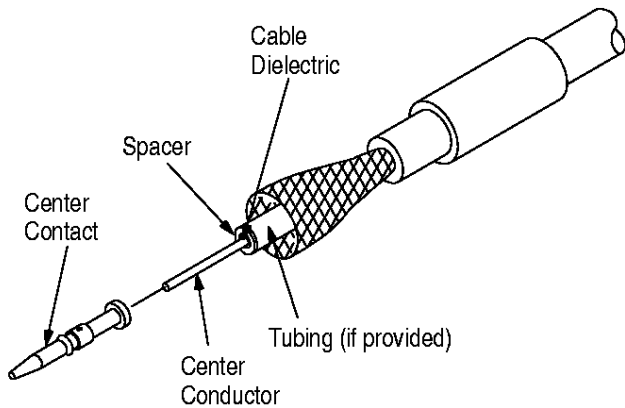

Figure 2
**NOTE** For cables with air core dielectric, a spacer must be assembled over the center conductor and bottomed against the dielectric prior to assembly of the center contact. If tubing is provided with the connector, slide it over the dielectric prior to assembly. Refer Figure 2.